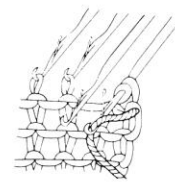

Fig.58-2
- Push the first needle forward until the two stitches on it are behind the latch and place the yarn from the feeder into its hook. (Fig.58-2)